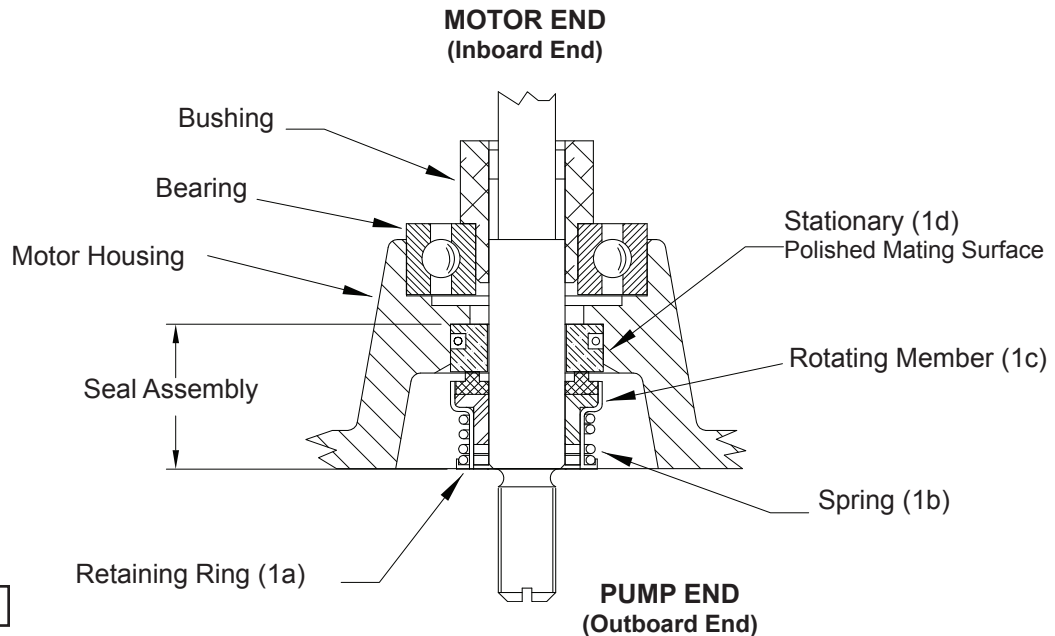
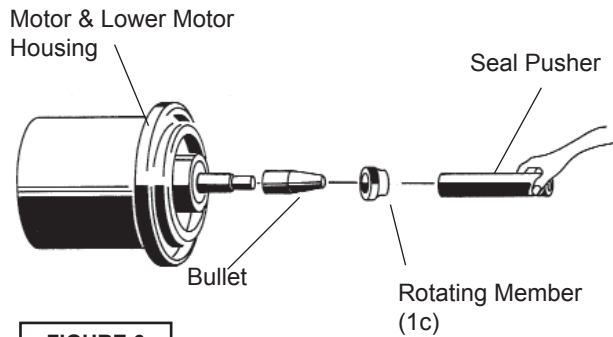

FIGURE 4
FIGURE 6
To expose shaft seal (1) disassemble volute and impeller as outlined in above paragraph. Remove rotating member (1b) from shaft (See Fig. 4). Examine all seal parts and especially contact faces. Inspect seal for signs of wear such as uneven wear pattern on stationary members, chips and scratches on either seal face. **DO NOT** interchange seal components, replace the entire shaft seal (1). If replacing seal, remove stationary (1a) by prying out with flat screw driver.
bullet (see parts list-seal tool kit) over motor shaft. Lightly oil (DO NOT use grease) shaft, bullet and inner surface of bellows on rotating member (1b). See Fig. 6. With lapped surface of rotating member (1b) facing inward toward stationary member (1a), slide rotating member (1b) over bullet and onto shaft, using seal pusher, until lapped faces of (1a) and (1b) are together (See Fig. 4).